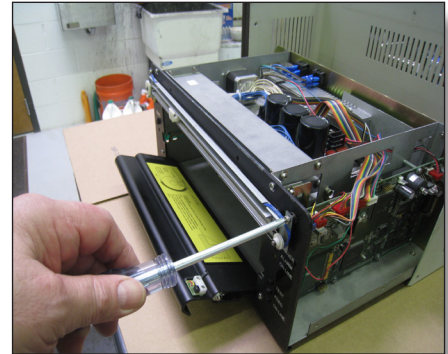
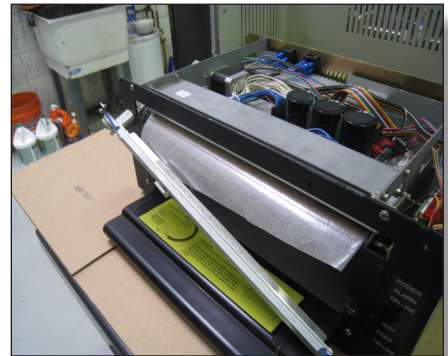

Fig. 4
Fig. 5
5. Open the front door fully. This lifts the print head away from the platen roller (orange rubber roller). Remove the 2 screws, (Fig. 4) one on each side, that hold the cutter unit to the faceplate and let the cutter hang loose across the opening to the media compartment. (Fig. 5)
7. If stencil film is not coming out over the platen roller, thread it in the normal manner. Let the film cover the platen roller and extend beyond it by about 2 inches. (Fig. 5) The film covering the platen roller makes it easy to perform the cleaning action of sliding the Q-tip head right and left.